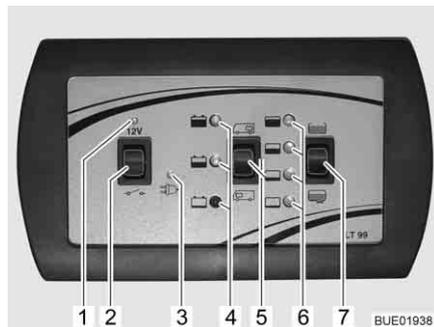

Fig. 42 Panel (LT 99)
The 12 V main switch (Fig. 42,2) switches the 12 V power supply of the living area on and off.
Switching on: ■ Press the upper part of the rocker switch (Fig. 42,2) "12 V": The 12 V living area power supply is switched on. The 12 V indicator lamp (Fig. 42,1) lights up in green.
Switching off: ■ Press the lower part of the rocker switch (Fig. 42,2) "⏏": The 12 V living area power supply is switched off. The 12 V indicator lamp (Fig. 42,1) goes off.
The rocker switch for the battery display (Fig. 42,5) can be used to check the charging condition of the living area battery or starter battery.
- Push the rocker switch (Fig. 42,5) up "": The charging condition of the living area battery is displayed.
- Push the rocker switch (Fig. 42,5) down "": The charging condition of the starter battery is displayed.
After the rocker switch is pressed, either the red, yellow or green indicator lamps (Fig. 42,4) light up.
The rocker switch for the tank level display (Fig. 42,7) can be used to check the level of the water tank or the waste water tank.
- Push the rocker switch (Fig. 42,7) up : The level of the water tank is displayed.
- Push the rocker switch (Fig. 42,7) down : The level of the waste water tank is displayed.
After the rocker switch is pressed, an indicator lamp (Fig. 42,6) lights up.
The yellow 230 V indicator lamp (Fig. 42,3) illuminates whenever line voltage is available at the transformer/rectifier input.